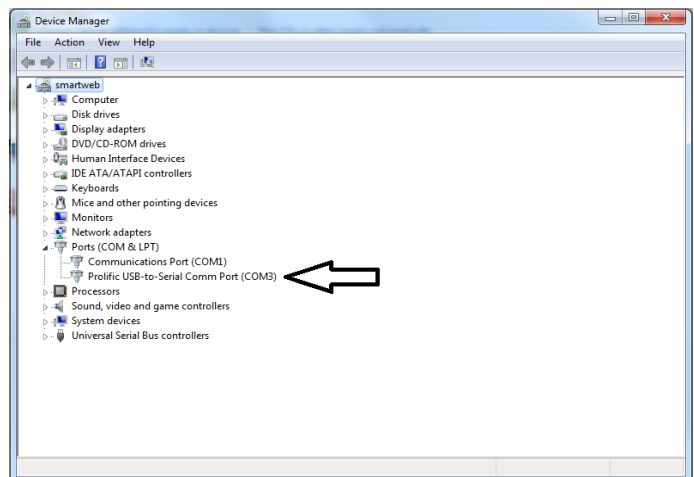

Figure 8-2
3. Use Windows Control Panel / Device Manager to identify the Com port number. See instructions and Figure 8-2 below.